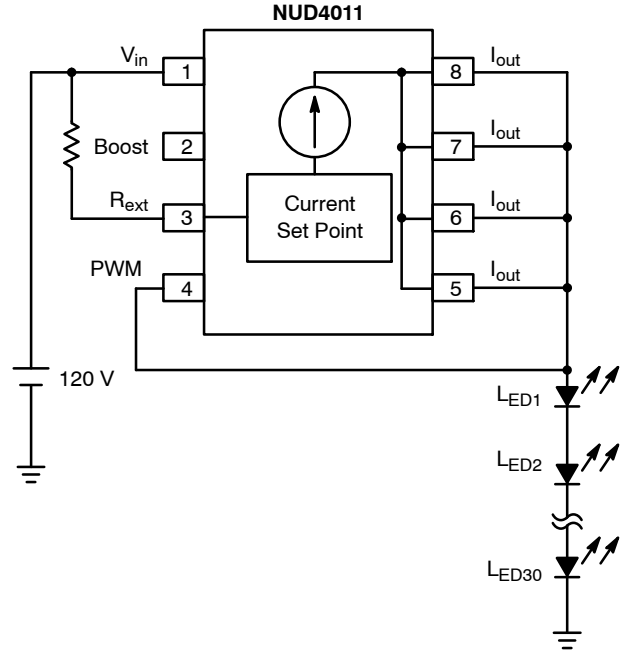

Figure 5. 120 V Application
3. Device's pin 4 connected to the LEDs array (as shown in Figure 5).
A Per example in Figure 5, $V_{in} = 120 \text{ Vdc}$
4. Define $V_{LED} @ I_{LED}$ per LED supplier's data sheet: per example in Figure 5,
A Per example in Figure 5, $V_{in} = 120 \text{ Vac}$